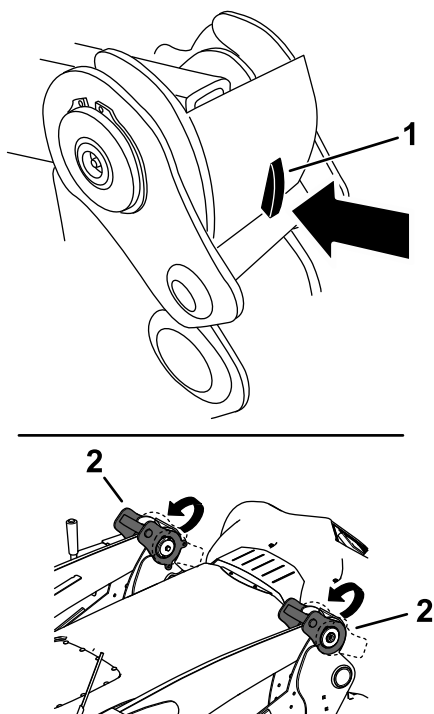

Figure 47
- Press down on the latch lock on each loader-arm latch and raise the latches to unlock the loader arms from the machine (Figure 47).